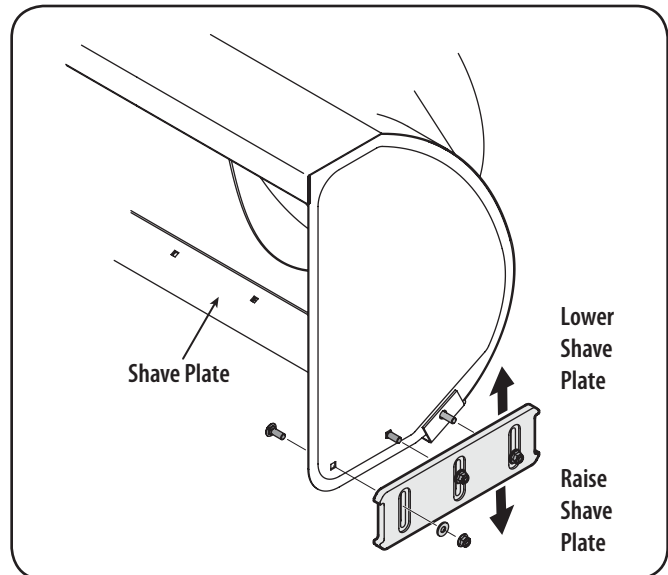

Figure 3-9
1. Adjust skid shoes by loosening the six (three on each side) hex nuts, washers, and carriage bolts securing the skid shoes to the auger housing. Refer to Fig. 3-9.
2. While observing the distance between the shave plate and the ground, adjust the skid shoes up or down to achieve the desired shave plate height. See Fig. 3-9.